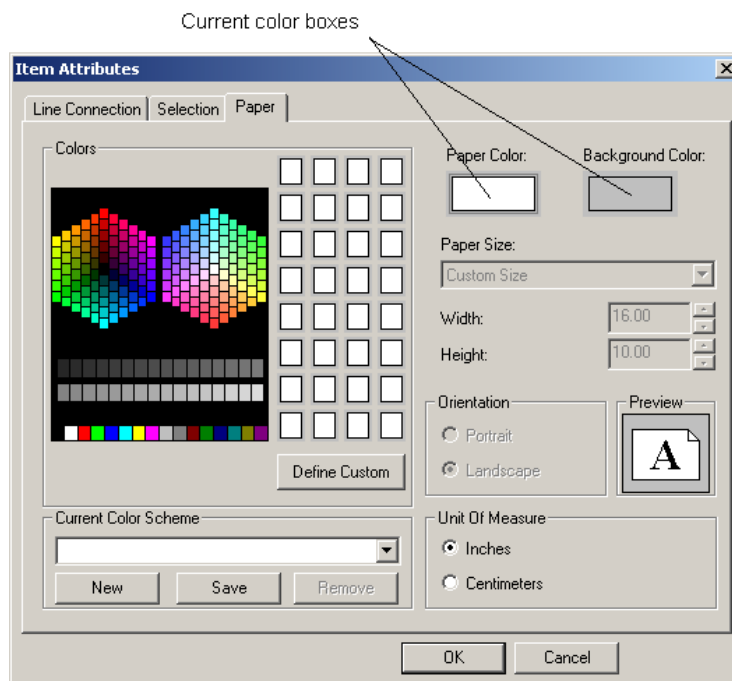

Figure 6-19 Paper tab – Item Attributes dialog
1. Click the **Paper** tab, if not already selected. See Figure 6-19.